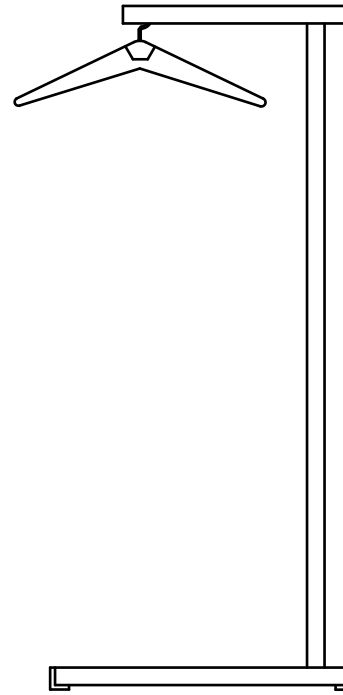

FIG 1
2. Installation of the stabilizer bar is next, this process will be easier with one person supporting the vertical and another attaching the bar. Fasten the stabilizer bar to the vertical as shown in FIG 1 with the #10 x 3/4 sheet metal screw into the pre drilled holes. Repeat this process for the second vertical.